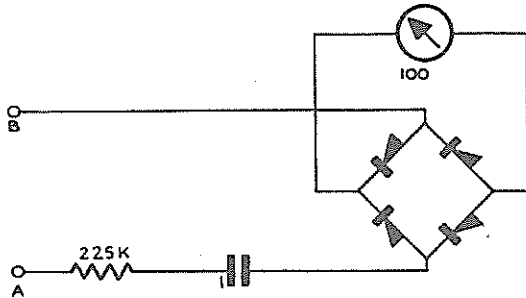

FIG. 2
5. Switch in Posn. 1 (0-250V. A.C.).—This range is intended primarily to check that there is no A.C. on the line which is being tested. In this position of the switch, the A and B terminals are extended to one side of a bridge rectifier, via a 225K resistor and a 1 μ F. capacitor, the instrument being connected across the other two terminals of the rectifier as shown in Fig. 2. The capacitor prevents the flow of D.C. when making A.C. measurements.